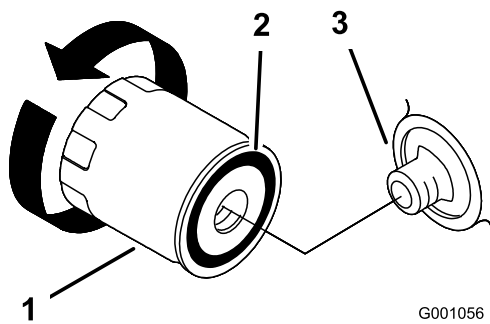

Figure 30
2. Remove the old filter and wipe the filler adapter gasket surface (Figure 30).
5. Apply a thin coat of new oil to the rubber gasket on the replacement filter (Figure 30).
6. Install the replacement oil filter to the filter adapter, turn the oil filter clockwise until the rubber gasket contacts the filter adapter, then tighten the filter an additional 2/3 to 1 turn (Figure 30).